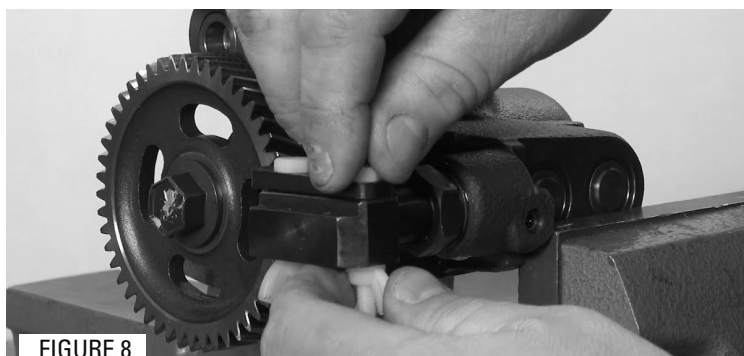

FIGURE 8
- 10** Remove and discard the plastic bolts, wing nuts and holding tool. (Figure 8)